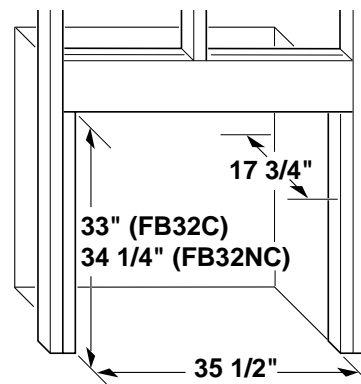
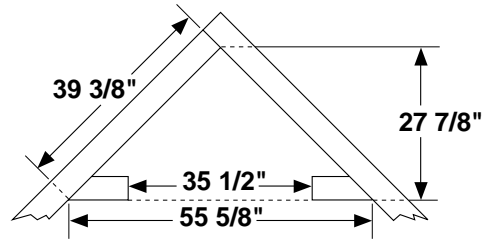

Figure 18 - Rough Opening for Installing in Wall
Figure 19 - Rough Opening for Installing in Corner
1. Frame in rough opening. Use dimensions shown in Figure 18 for the rough opening.
If installing in a corner, use dimensions shown in Figure 19 for the rough opening. The height is 33" (FB32C) or 34 1/4" (FB32NC), which is the same as the wall opening in Figure 18.